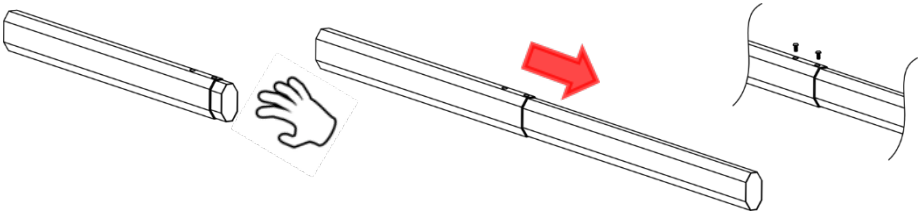

Figure 1 Connect the main boom with vice together by 2 screws
- Pull the barrier arm out from the main boom, and then fasten it with 2 screws as shown in Figure 1.